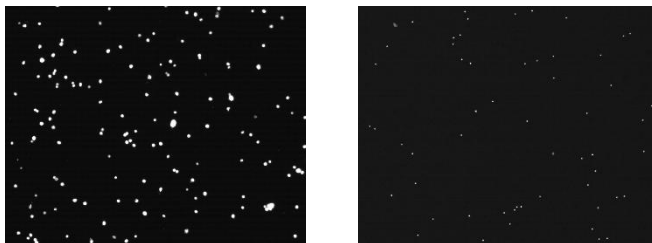

Figure 3: Example of post-bind AO/DAPI stained HEK cells (left) and PBMCs (right).
- After fixation, the cells/nuclei are permeabilized and should appear dead with viability stains. We recommend Trypan Blue for all counting up until the bead binding step. After the beads are bound, we recommend using fluorescent staining such as Acridine Orange/Propidium Iodide (AO/PI) or Acridine Orange/DAPI (AO/DAPI) (Figure 3).